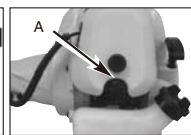

Fig. 9D
4. Press the primer bulb (A) 10 times (Fig. 9D).